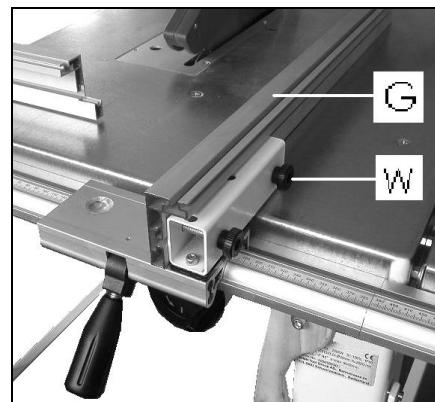

Fig 7
Use 2 bolts and wing nuts (W, Fig 7) to attach the aluminium profile (G) to the rip fence body